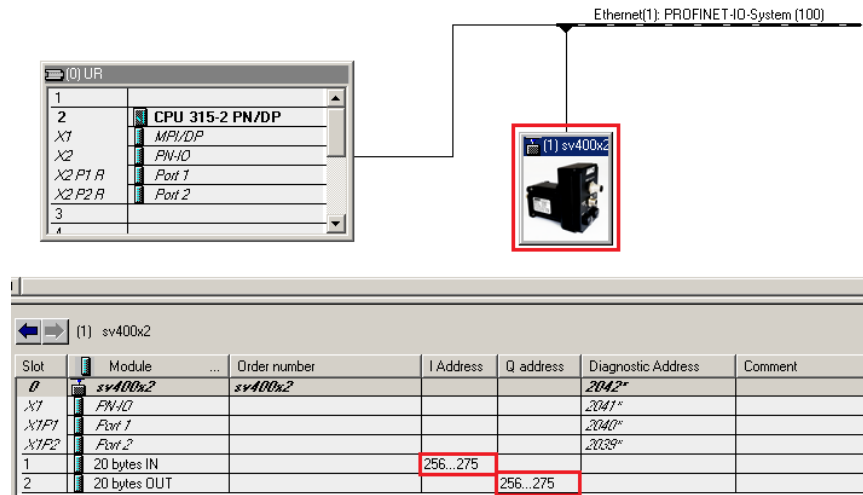

Figure 3: I/O area address range of the SV400x2
- a) The **LADDR** parameter selects the PROFINET I/O module from which data will be read. As shown in the Figure 3, the starting address for the SV400x2 input area is 256, which is 100hex.
- b) The **RECORD** parameter defines the target **Data Block (DB)**, which will contain the SV400x2 Input Data that is read by this function. Set the pointer to the beginning of the data block (P#DB1.DBX0.0) and define the data length (BYTE 20).
- a) The **LADDR** parameter selects the PROFINET I/O module to which data will be written. As shown in the Figure 3, the starting address for the SV400x2 output area is 256, which is 100hex.
- b) The **RECORD** parameter defines the target **Data Block (DB)**, which will contain the SV400x2 Output Data to be written to the SV400x2 drive by this function. Set the pointer to the beginning of the data block (P#DB2.DBX0.0) and define the data length (BYTE 20).